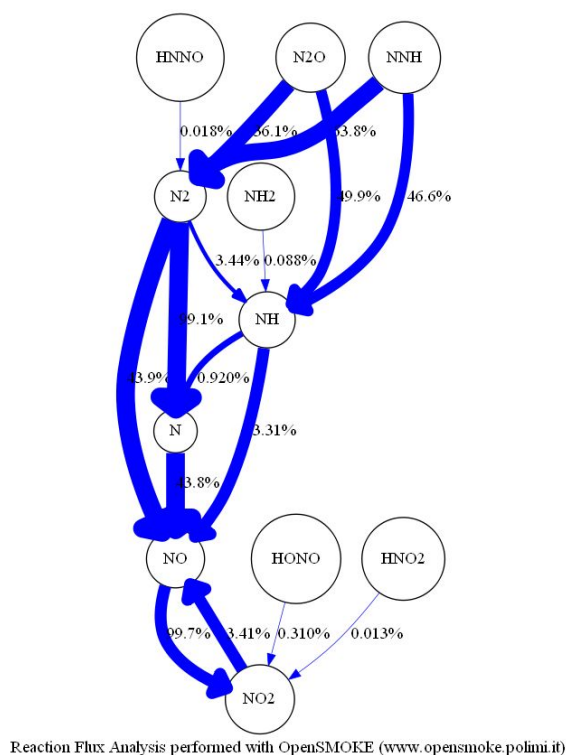

Figure 3.5: Adiabatic batch reactor: flux analysis (NO production, Element N, Depth 1, Width 4)
5. Eventually, you can also draw path diagrams through the **Flux Analysis** button (this feature is only available if you correctly installed Graphviz and Irfanview, as described in the previous Chapter). As an example, in the **Type** panel select the **Local** radio button and write 0.022 in the corresponding window (this is the time in seconds at which you want to perform the flux analysis). Select **NO** from the **Species** list, **N** element from the **Element** list, and **Production** from the **Type** panel. If you click on the **Flux Analysis** button, you should get the flux diagram reported in Figure 3.5.